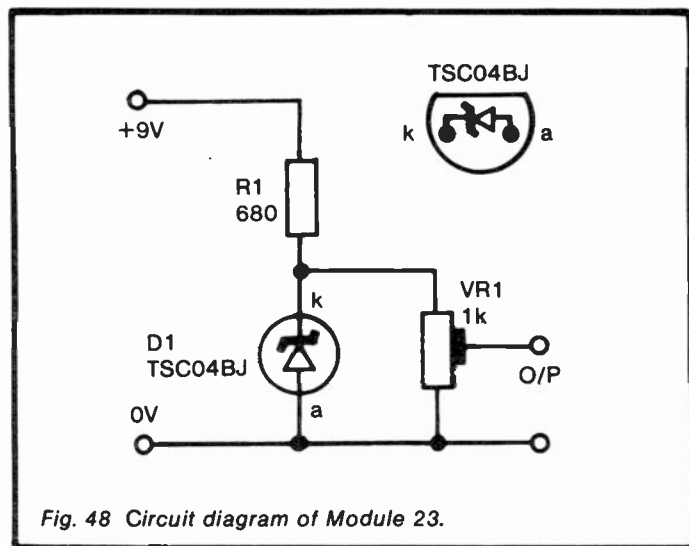

Fig. 48 Circuit diagram of Module 23.
**Circuit diagram:** see Figure 48.